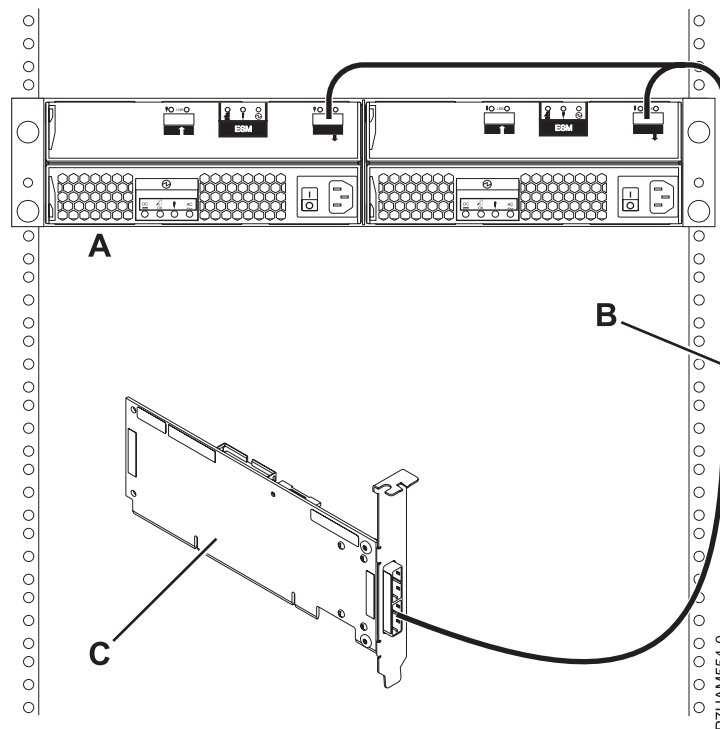

Figure 29. Connection of one 58/86 disk drive enclosure to a single SAS adapter by using a YO cable
5. Perform the connection of one 58/86 disk drive enclosure (**A**) to a single SAS adapter (**C**) by using a YO cable (**B**) as shown in Figure 29.